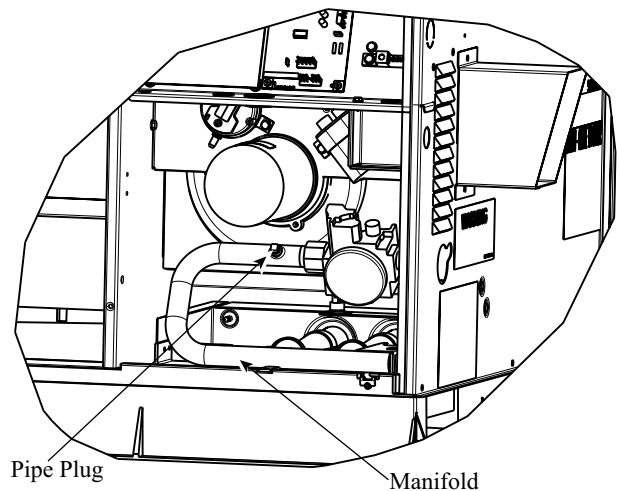

Fig. 14 – Burner Assembly
- Remove pipe plug on manifold (See Fig. 14) and connect manometer. Turn on gas supply to unit.
4. Turn off gas supply to unit. Remove manometer from pressure tap and replace pipe plug on gas valve. (See Fig. 14.) Turn on gas to unit and check for leaks.